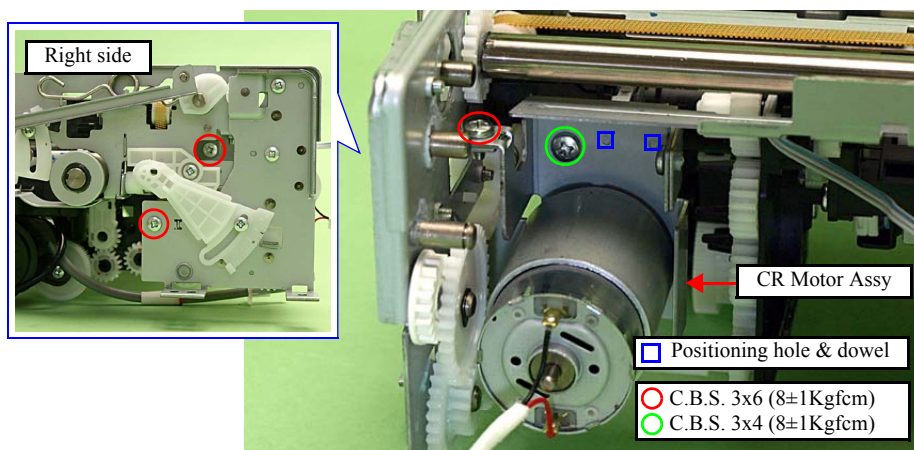

Figure 4-126. Removing the CR Motor (2)
- Align the dowels (x2) of the CR Motor Holder with the positioning holes (x2) of the Main Frame. (See Fig. 4-126.)